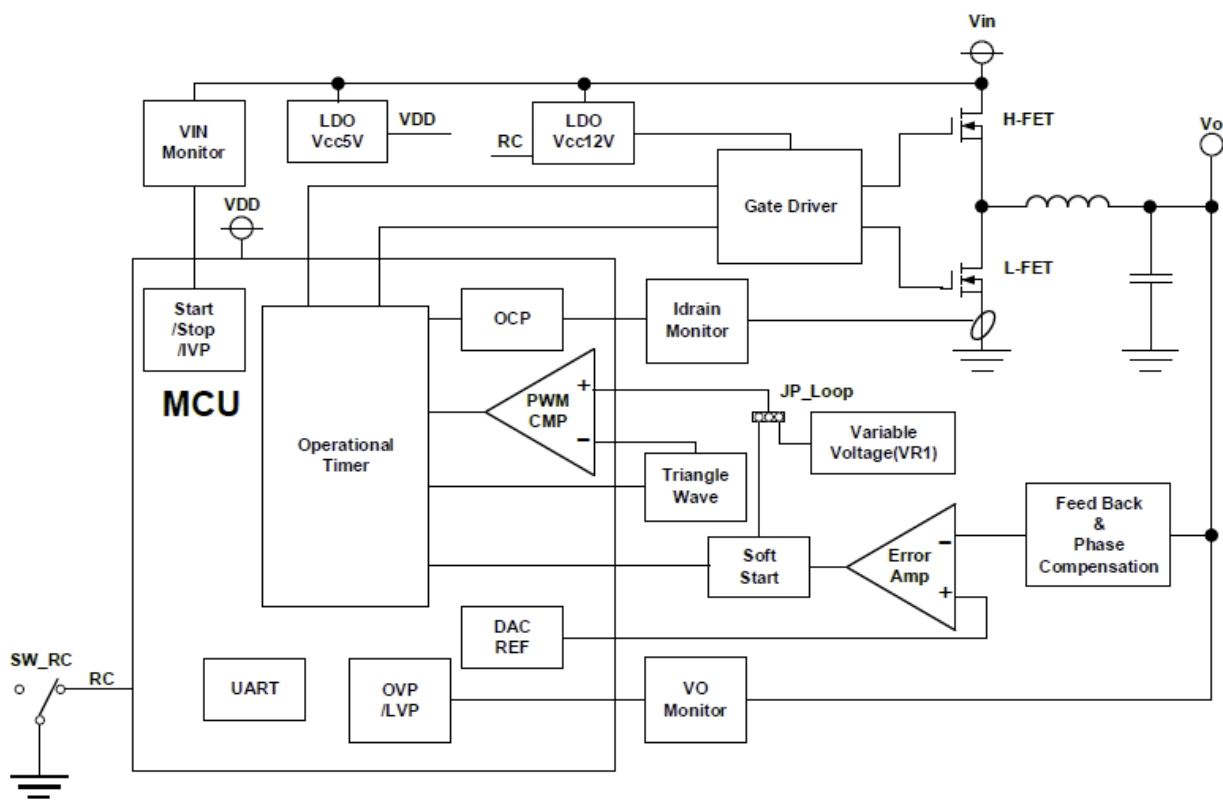
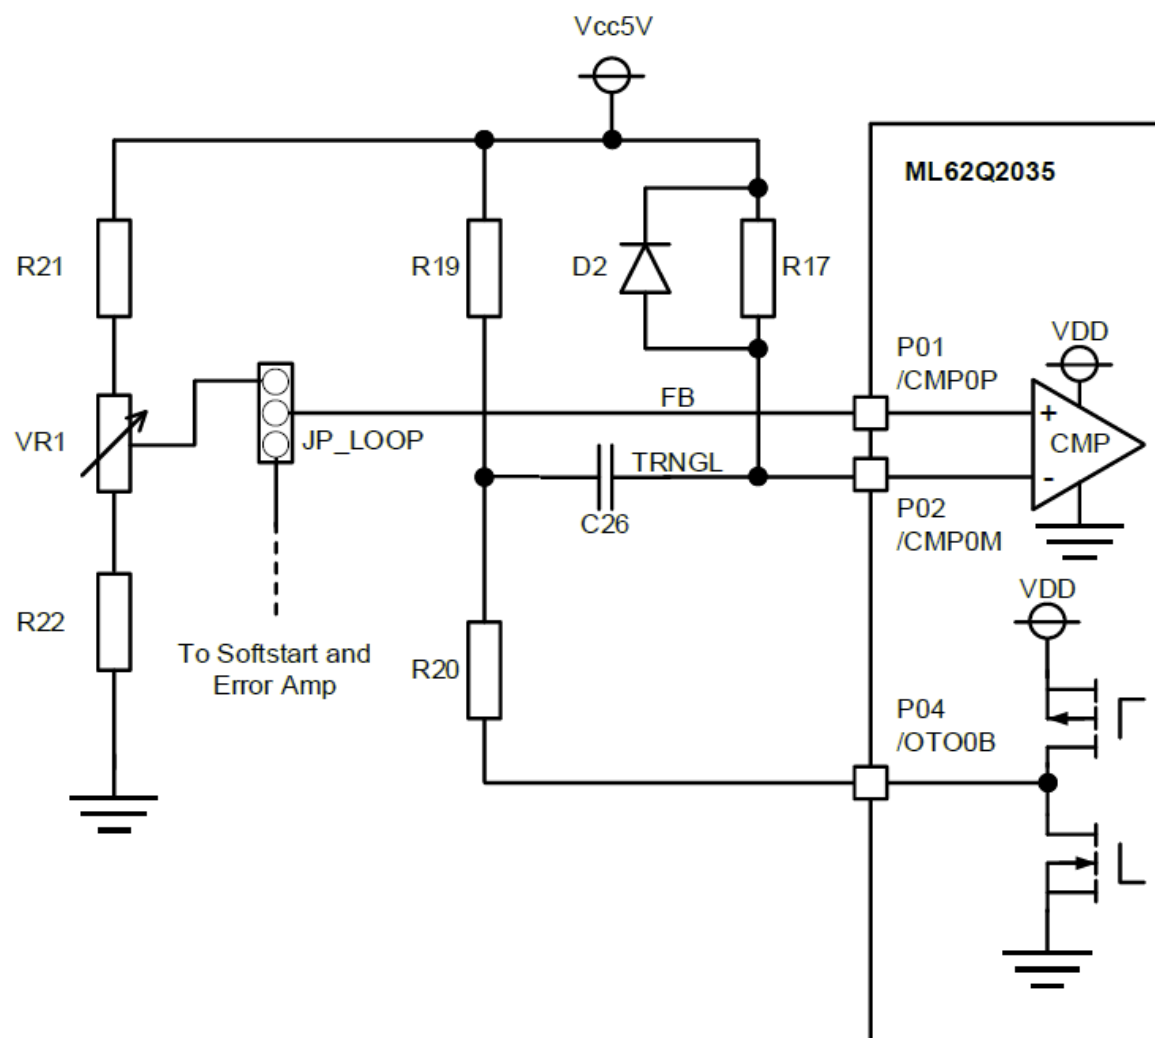

Figure 4-1. Application Block Diagram
Figure 4-4. Triangle waveform generator and surrounding circuit
Figure 4-1 shows the application block diagram of this EVK.
- Figure 4-4 and 4-5 shows the triangle waveform generator and surrounding circuits, and timing chart. Triangle waveform is generated at P02/CMP0M pin by clock pulse output from P04/OTO0B pin. P01/CMP0P pin and P02/CMP0M pin have been set as an input of analog comparator and the build-in analog comparator operate as the PWM comparator.
This EVK can be operated in open loop without feedback control for debugging. Open loop and closed loop operation can be exchanged by the jumper connection of JP_Loop (refer to Figure 4-1. Application Block Diagram and Figure 4-4. Triangle waveform generator and surrounding circuit.) When open loop operation is selected, the input voltage of the PWM comparator can be tuned using volume resistor VR1. The divided voltage from Vcc5V by R21 and 10k Ω volume resistor VR1 will be the FB voltage (0 Ω is mounted on R22.)